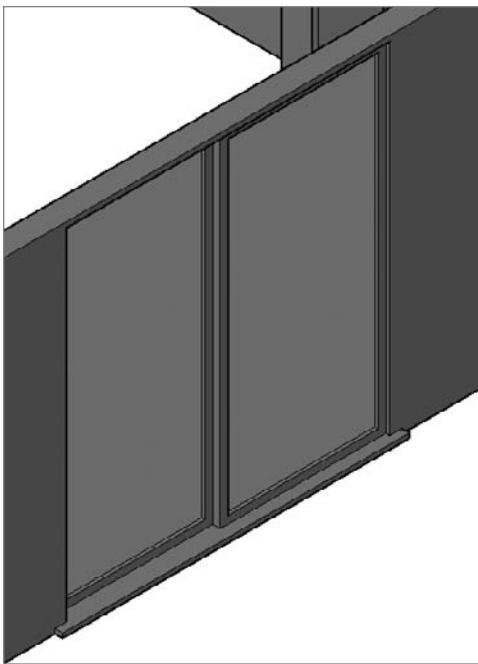

FIGURE 16.52 The completed sliding door with two offset panels
8. Copy the frame until it butts the opening on the left and then move it 2" (51 mm) toward the inside of the cabin so that the two door frames are offset (see Figure 16.52).